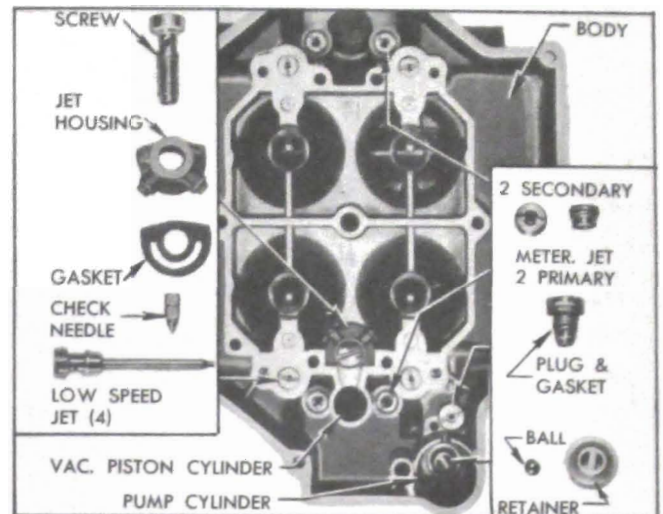

Figure 3-48—Parts in Main Body
plunger assembly and lower pump spring from cylinders in main body. See figure 3-48.
13. Remove screw, pump jet housing, gasket, and pump check needle from main body. See figure 3-48.
14. Remove four low speed jets, four metering jets, and the pump relief plug with gasket from the main body. See figure 3-48.
15. Use a thin screw driver or a stiff wire having a short hook on one end to remove the pump intake check ball retainer. See figure 3-48.
14. Place a *new* intake check ball retainer and check ball in small end of the sleeve of Loader Unit T 109-122U, (shown in figure 3-37) holding sleeve vertical. Invert main body and insert parts and tool into pump cylinder, then turn body over and tap sleeve to seat the retainer in recess at bottom of pump cylinder. See figure 3-48.
15. Install pump relief plug with gasket, the four metering jets, and the four low speed jets in main body. See figure 3-48. NOTE: *The metering rod jets in primary side have a larger hole that main metering jets in secondary side. See paragraph 3-1 for correct numbers.*
16. Place pump check needle, *tapered end downward*, in passage in main body, then install gasket, pump jet housing, and attaching screw. See figure 3-48.